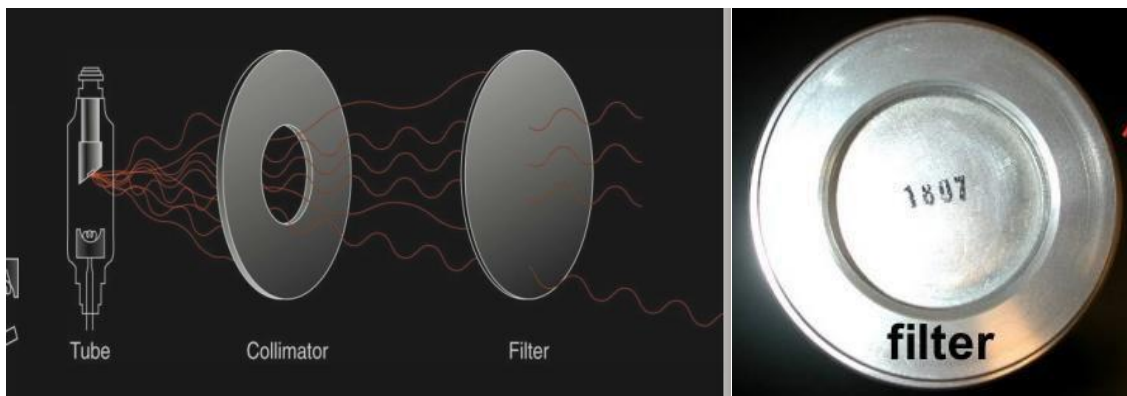

fig 3: aluminum filter attached to the tube head
.Fig 3: x-ray tube head and production of useful x-ray beam
*[total filtration = inherent filtration + added filtration] fig 3: aluminum filter attached to the tube head